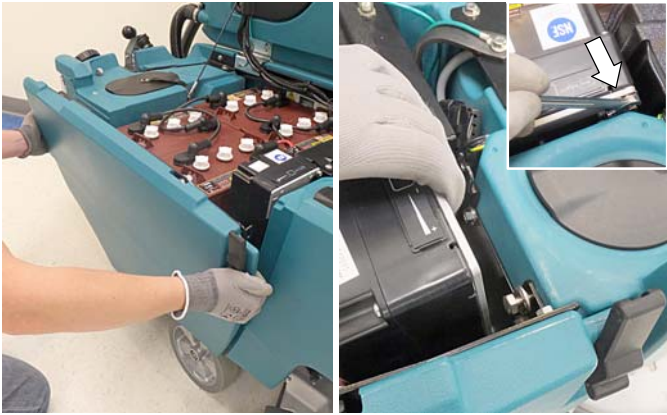

FIG. 28
31. Reinstall the side panel (FIG. 28). If machine is equipped with ec-H2O, replace the ec-H2O module in bracket and secure with screw.